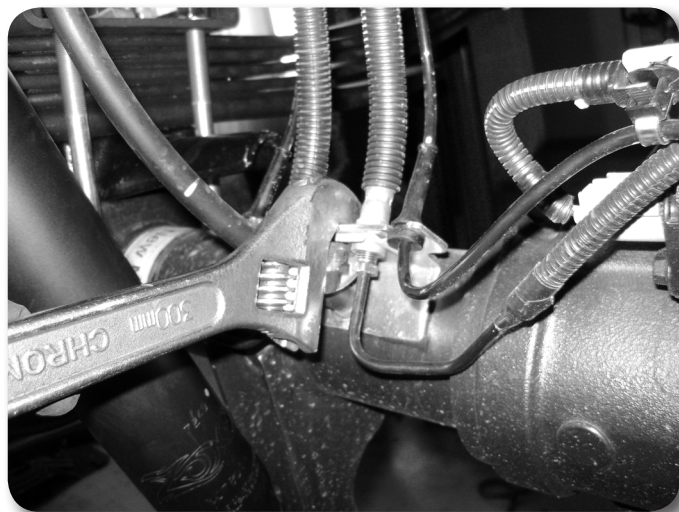

Figure 26
13. The brakelines may require additional slack. Located the factory bracket on the axle. Using an adjustable wrench, carefully bend the bracket so the fittings are positioned vertical to allow more slack. Figure 26